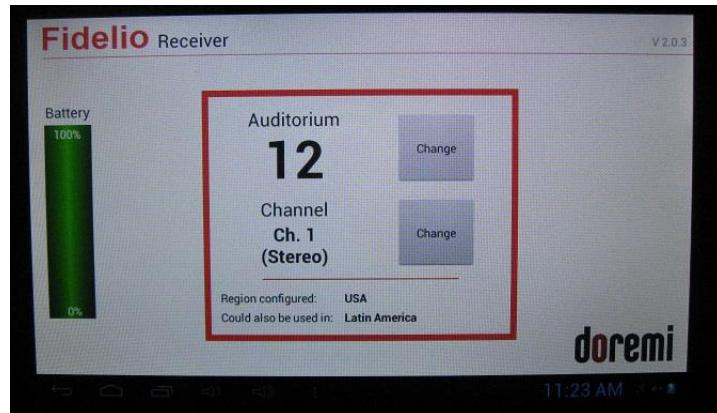

Figure 35: Receiver Auditorium and Channel Assignments Screen
- The tablet will then display the Receiver display screen. This screen will provide you with the Auditorium and Channel assignments for the Receiver (Figure 35).
- To change their assignments, simply touch the corresponding Change button (Figure 35).